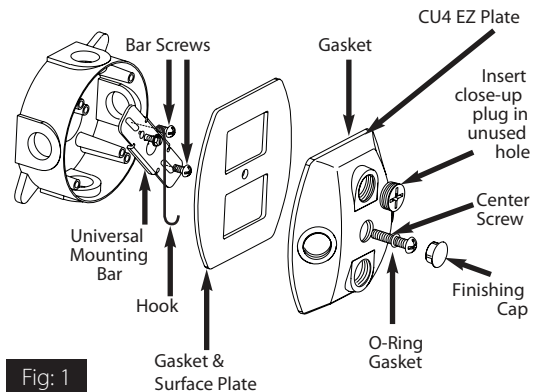

Fig: 1
1. Screw the threaded arms of each floodlight into the RAB CU4 EZ Plate. (See **Fig. 1**.)
7. Position CU4 EZ Plate and metal surface plate with gasket (required for mounting on surface junction boxes.) (See **Fig. 1**.)